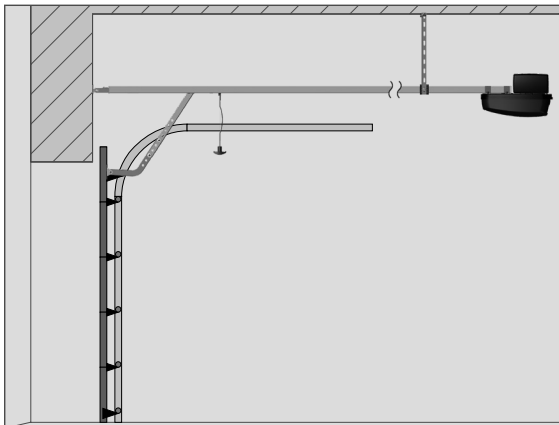

FIGURE 1
- The drive rail must be parallel with the ceiling as shown in Figure 1.